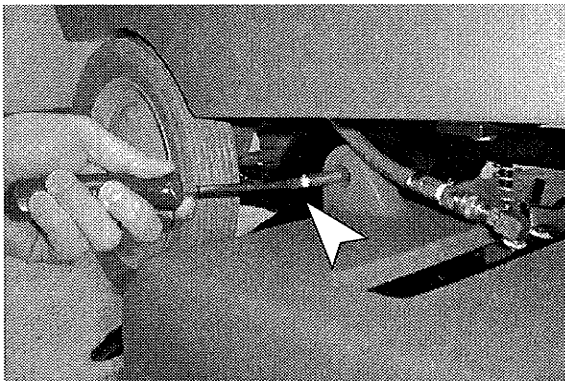

FIG. 7
2. To adjust brush height, use a standard screwdriver and turn brush height adjustment lever in 1/4 turn increments, 4 settings (Figure 7).